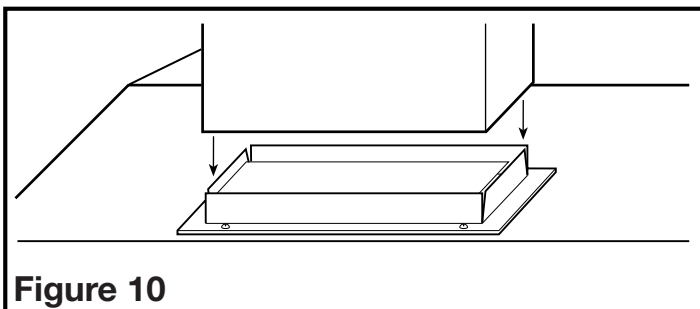

Figure 10
- Connect the ducting to the hood's duct collar and damper. Ensure duct joints and exterior penetrations are sealed with caulk or other similar material to create an air-tight path to minimize building heat loss or gain and to reduce the potential for condensation. Place/wrap insulation around duct and/or fan in order to minimize possible condensation buildup within the duct, as well as building heat loss or gain (Figure 10).